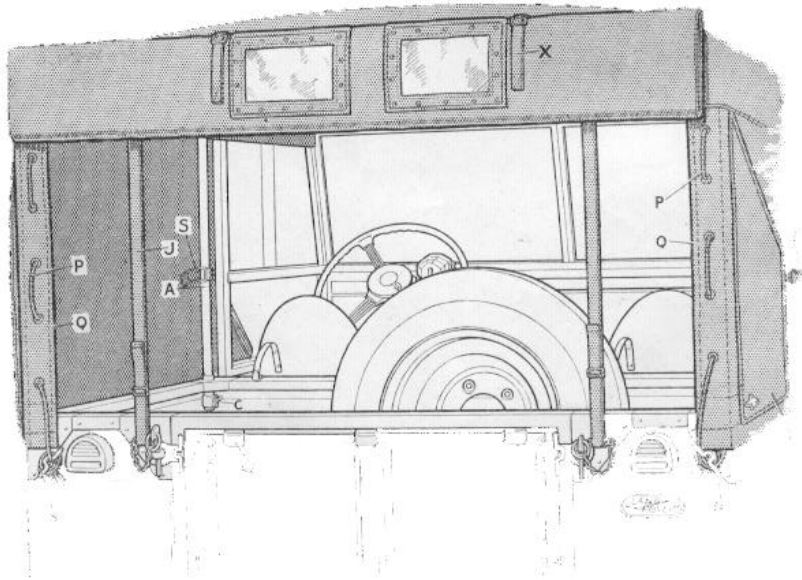

Fig. 42. Full-length hood (rear curtain raised).
Pull the rear hood straps (J) tight and attach to the staples on the rear of the body (Fig. 42).
Pass the rear hood retaining ropes (P) through the holes in the rear curtain, lace them through holes in the rear hood retaining flaps (Fig. 42) and attach to the rear rope hooks.
If it is desired to raise the rear curtain, undo the rear curtain bottom rope and unstrap the side flaps. Fold the side flaps to the centre of the rear curtain, roll the curtain into three folds (Fig. 42) and hold in position by the curtain straps (X) and buckles (Y).